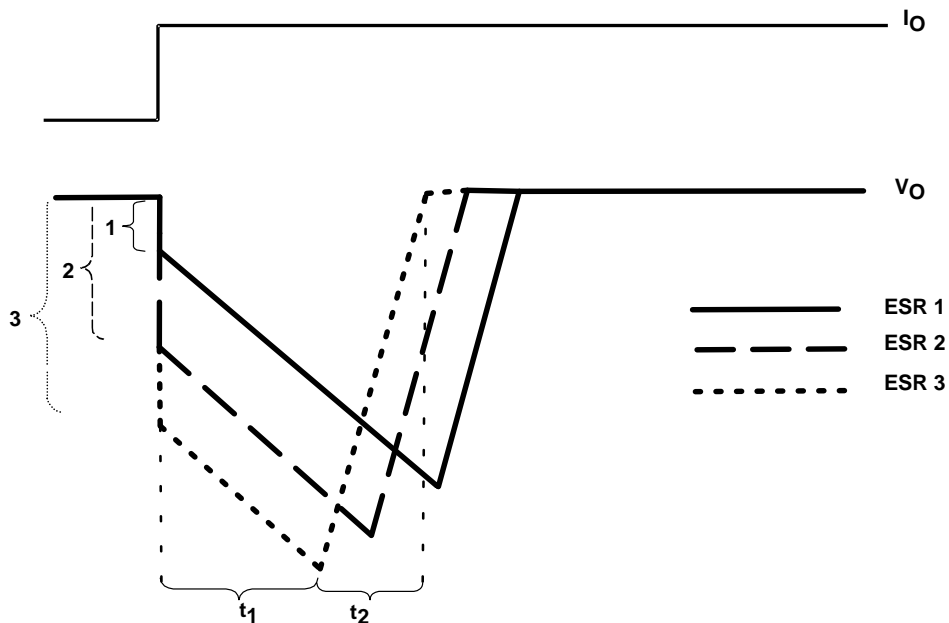

Figure 39. Correlation of Different ESRs and Their Influence to the Regulation of  $V_O$  at a Load Step From Low-to-High Output Current
- The LDO is not able to supply the sudden current need due to its response time ( $t_1$  in Figure 39). Therefore, capacitor  $C_O$  provides the current for the new load condition (dashed arrow).  $C_O$  now acts like a battery with an internal resistance, ESR. Depending on the current demand at the output, a voltage drop occurs at  $R_{ESR}$ . This voltage is shown as  $V_{ESR}$  in Figure 38.
- When  $C_O$  is conducting current to the load, initial voltage at the load will be  $V_O = V(C_O) - V_{ESR}$ . Due to the discharge of  $C_O$ , the output voltage  $V_O$  will drop continuously until the response time  $t_1$  of the LDO is reached and the LDO resumes supplying the load. From this point, the output voltage starts rising again until it reaches the regulated voltage. This period is shown as  $t_2$  in Figure 39.